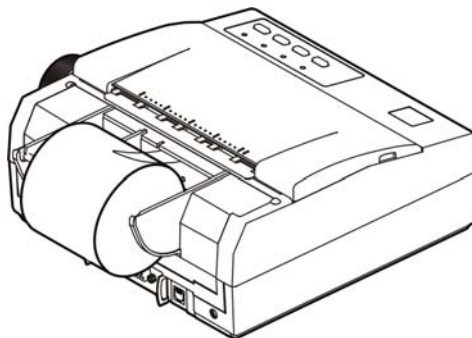

Figure 3-8 Finish installing roll paper
5. Finish loading paper as shown in figure 3-8.